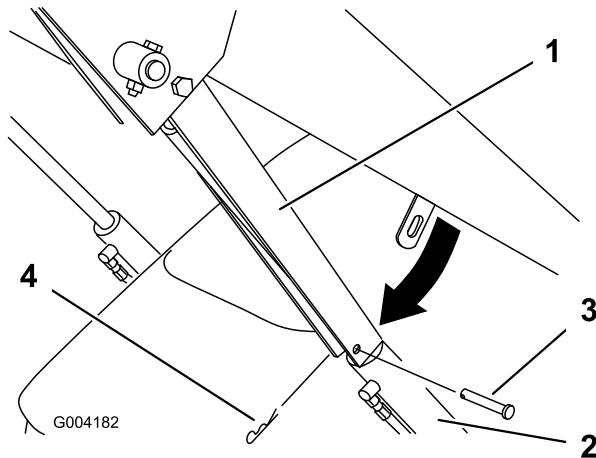

Figure 24
4. Remove the hairpin cotter and clevis pin securing the cylinder lock to the loader arm (Figure 24).
5. Lower the cylinder lock over the cylinder rod and secure it with the clevis pin and hairpin cotter (Figure 24).